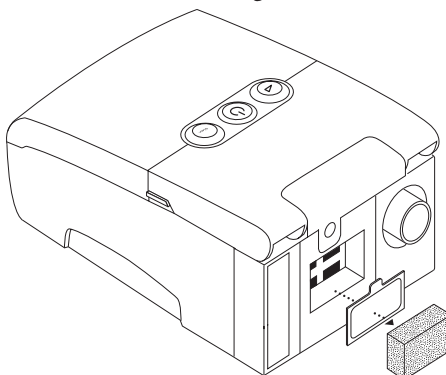

FIGURE 7–1 REMOVING THE FILTERS
2. Remove the filter(s) from the enclosure by gently squeezing the filter in the center and pulling it away from the device, as shown in Figure 7–1.